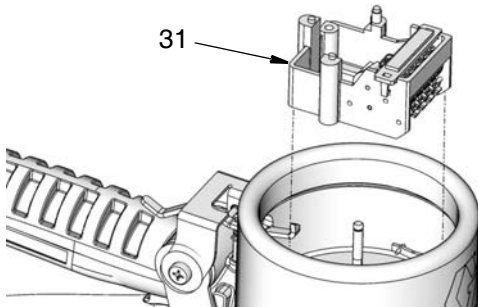

FIG. 30
6. Remove the entire counter assembly (31) (FIG. 30).